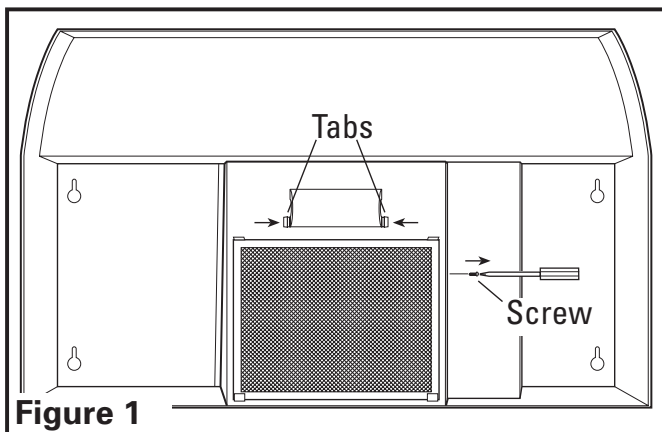

Figure 1
3. Remove wire compartment cover screw and then lamp cover by squeezing the two tabs together (**Figure 1**).